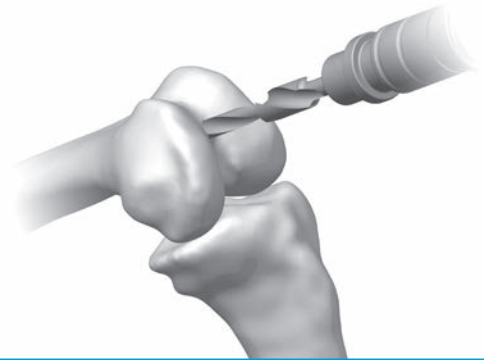

Fig. 110
- Drill the IM canal using the 8mm IM Step Drill (Fig. 110). Suction the canal to remove medullary contents.